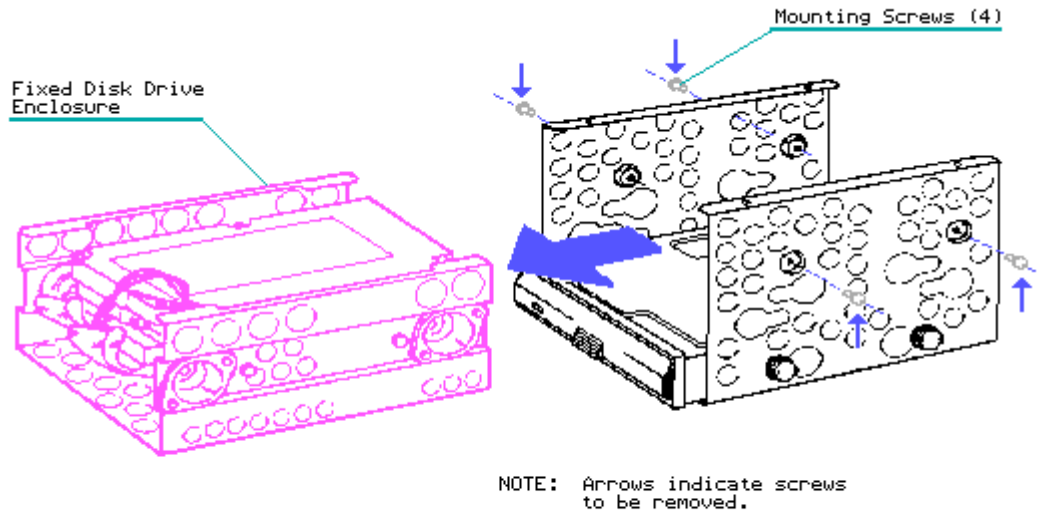

Figure 7-59. Removing the Fixed Disk Drive
2. Using a Torx screwdriver, remove the two shoulder bolts and vibration isolators from either side of the mass storage device subassembly enclosure. Slide the fixed disk drive assembly enclosure out of the mass storage device subassembly (Figure 7-59).